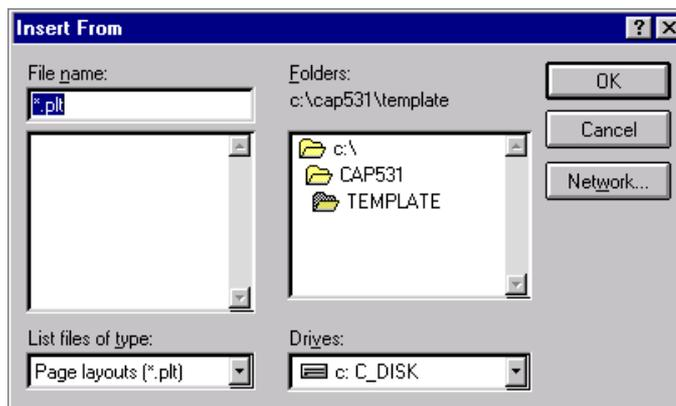

Fig. 55 The Insert From... dialogue box.
- 3 Select the 'Insert From...' command in the File menu of the Page Layout, and the Insert From dialogue box in Fig. 55 appears.